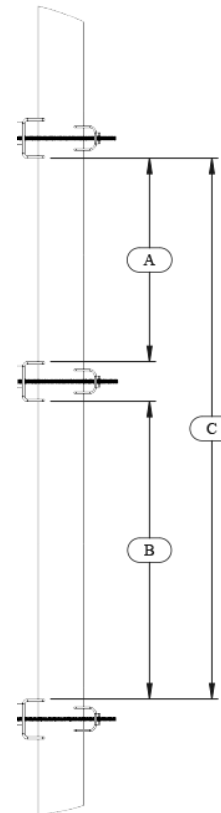

**Figure 10: Connecting the bracket and the back grip**
1. Connect dual mount bracket F and back grip G, using threaded rods B and the following 3/8" hardware: A, D, and E. See Figure 10.